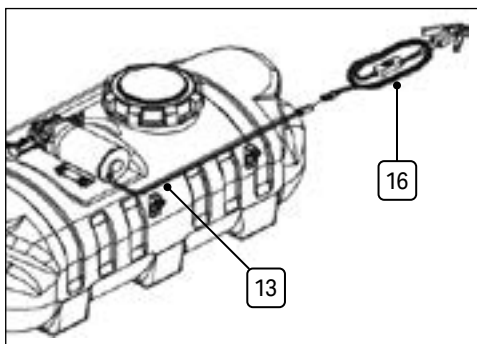

Fig. 14
7.4 Disconnecting the Remote Switch from the Battery (Fig.14)